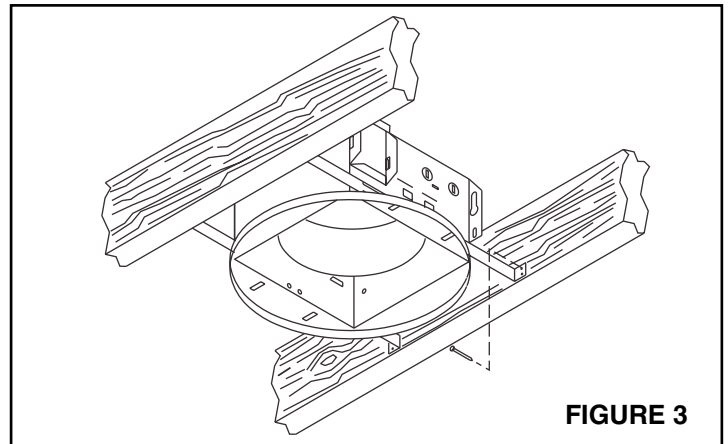
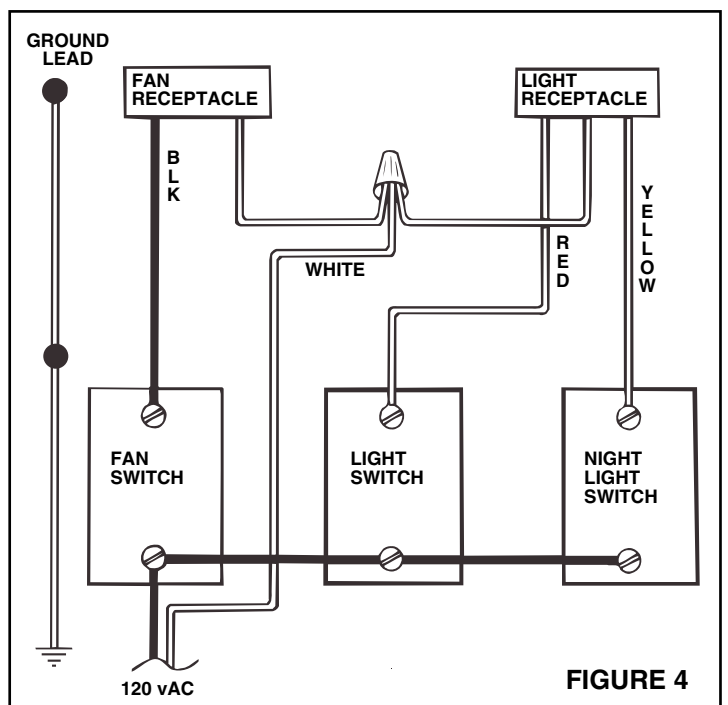

FIGURE 3
FIGURE 4
Refer to Figure 3.
1. Run 120vAC house wiring from wall switches to fan location, neutral (white), ground (bare copper), and three switched hot leads. See Figure 4.
4. Refer to Figure 4. Connect white wires from the fan and light receptacles to white (neutral) wire from the supply. Connect black wire to wire from fan switch. Connect red wire to wire from light switch. Connect yellow wire to wire from night light switch.
Plan ducting wiring before proceeding with installation. Refer to **Figure 4 for wiring** and **Figure 3 for ducting**. **CAUTION: Check area above planned location to be sure that:**